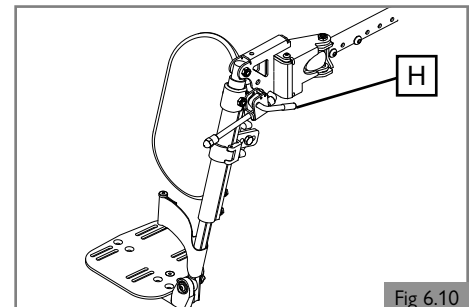

Fig 6.10
6.6 Elevating legrest (Option) (Fig 6.10)